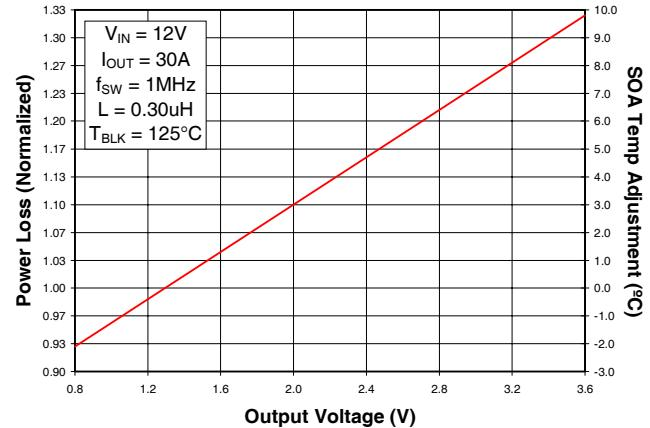

Fig. 4: Normalized Power Loss vs. VOUT
- (Fig. 4) Normalized power loss for output voltage  $\approx 1.28$
- (Fig. 4) Normalized SOA Temperature for output voltage  $\approx 8.4^\circ\text{C}$